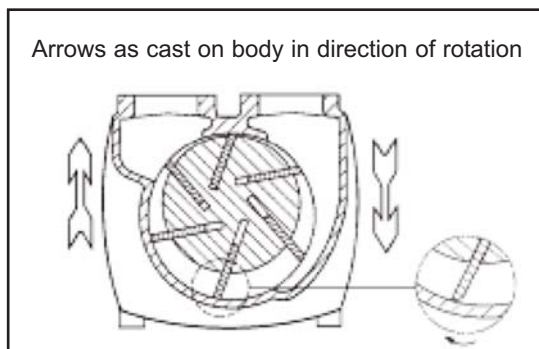

Figure 14
6. When replacing blades, make sure they are inserted into the rotor slots in the correct position as shown in Figure 14. The angle of the blade tip must match the arrows on the body bore.